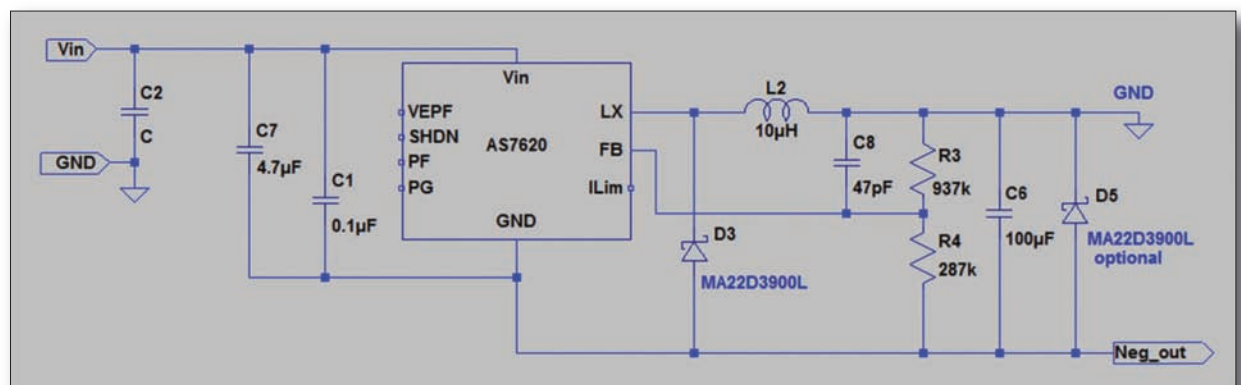

Figure 1: AS7620 connected as a negative buck/boost regulator
Figure 1 shows a  $-5\text{V}$  negative buck/boost inverter circuit, using the AS7620 positive buck regulator from austriamicrosystems. This IC is specified for a  $3.6\text{V}$  to  $32\text{V}$  input voltage range, uses a  $1.2\text{V}$  feedback voltage and has an internal  $500\text{mA}$  power switch. The switch current is monitored so that the converter always operates in discontinuous current mode (DCM): this means that it is intrinsically stable, and no external compensation circuitry is needed. It also means that it does not have an issue with stability due to the RHP zero, because this only occurs in flyback, boost and Ćuk circuits, and then only in continuous current mode.
During the first stage of the switching period, when the switch is on, the inductor is linearly ramped up to store energy (see Figure 1 again). No current passes to the output. In the second stage,
1) The voltage across the AS7620 is made up not only of  $V_{in}$ , but is equal to the input voltage plus the magnitude of the negative output voltage ( $V_{in} + |V_{out}|$ ). Therefore care should be taken to specify an appropriate voltage rating for the input caps (C7 and C1 in Figure 1). In addition, ( $V_{in} + |V_{out}|$ ) must not exceed the maximum voltage rating of the regulator. The AS7620, for instance, has a maximum voltage rating of 40 V. It is feasible to use this part to generate a -12 V output from a +12 V rail, or a -5 V output from a +24 V rail.